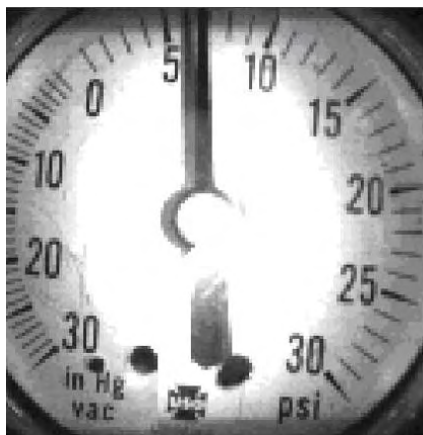

Figure 60 : Glare from the left LED on the bottom of needle.
- a. Since *Dynamic Stitching* uses a special offset stitching pattern, it is prone to some additional glare near the center of the needle. See Figure 60 for an example.